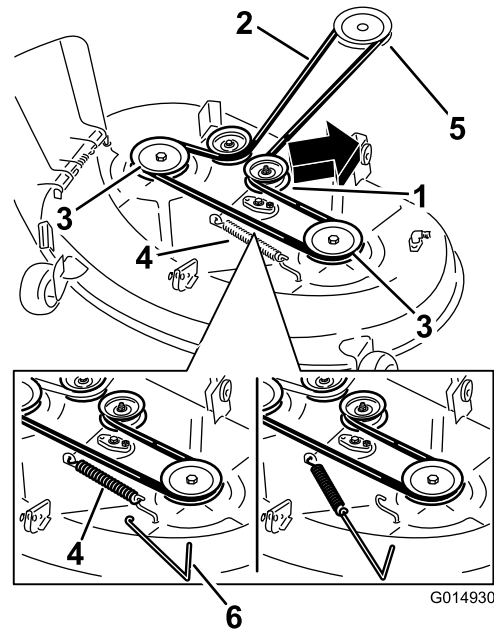
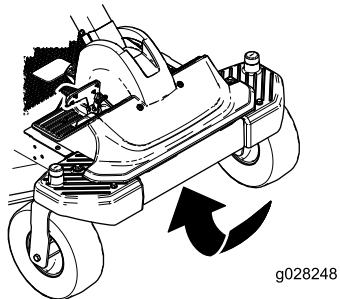

Figure 59
Figure 60
6. Route the new belt around the engine pulley and mower pulleys (Figure 59).
7. Using a spring-removal tool, install the idler spring over the deck hook, and place tension on the idler pulley and mower belt (Figure 59 and Figure 60).
5. Using a spring-removal tool, (Toro Part No. 92-5771), remove the idler spring from the deck hook to remove tension on the idler pulley, and roll the belt off of the pulleys (Figure 59).
Remove debris under the front of the machine with compressed air or by hand with a brush (Figure 60).